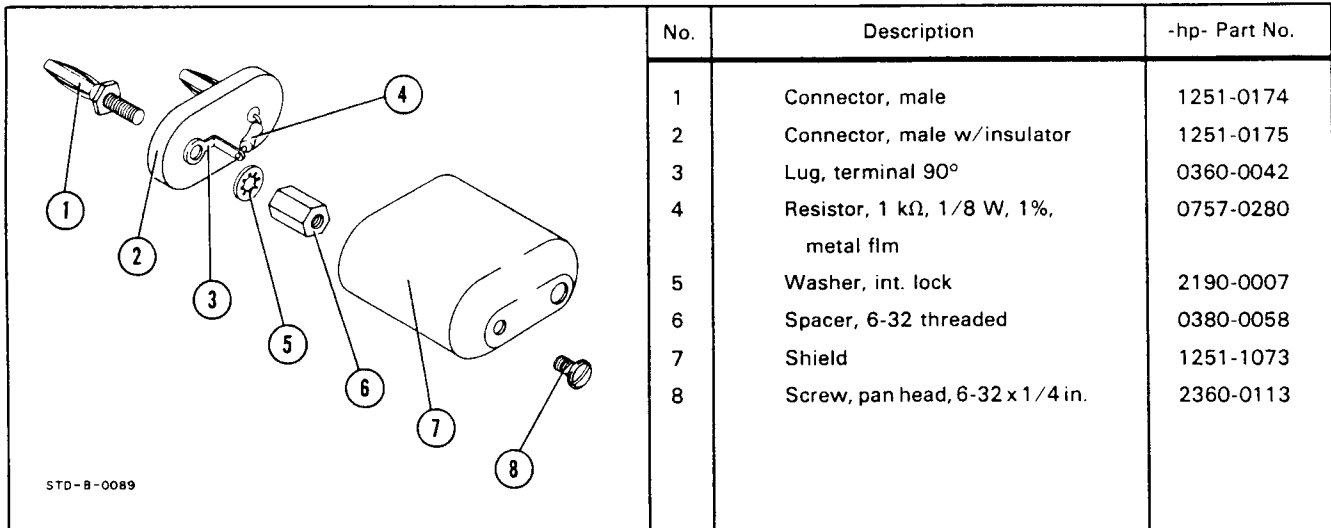

Figure 4-12. Shielded Load Assembly.
1 kΩ shielded load (Refer to Figure 4-12.)
b. Connect the 1 kΩ shielded load to the DISTORTION ANALYZER input terminals. (See Figure 4-12 for construction details of 1 kΩ load.)